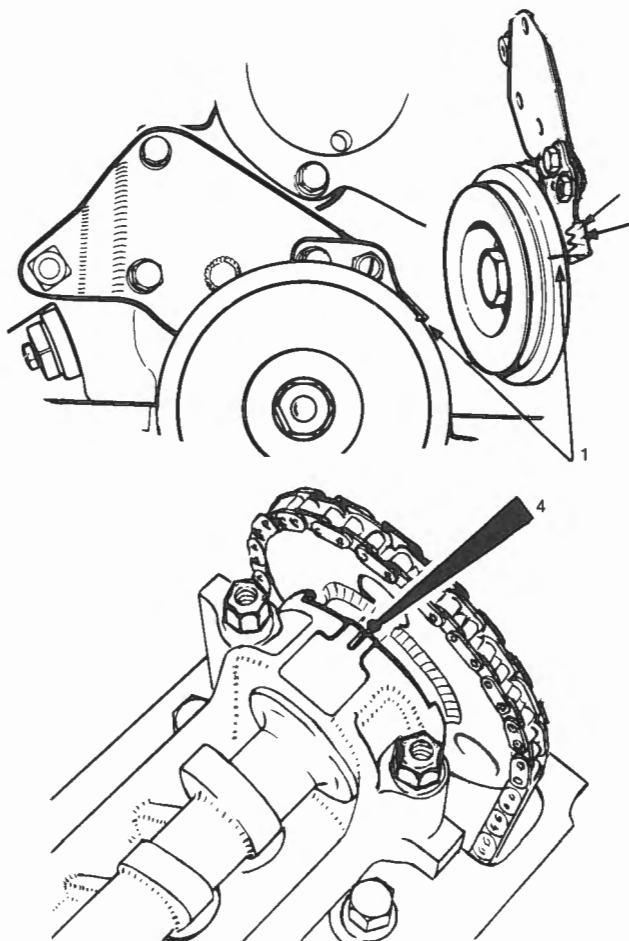

Fig. E-18
- With the crankshaft set as above, check that the hole in the camshaft sprocket boss is aligned with the groove in the cam carrier, Fig. E-18. Should it be found that adjustment is not necessary assemble and reconnect the components by reversing the checking procedure — Do not apply jointing compound to the cam cover gasket.
- Refit the camshaft sprocket to the camshaft and rotate the camshaft until the hole in the sprocket is aligned with the groove in top of the camshaft carrier, Fig. E-18.